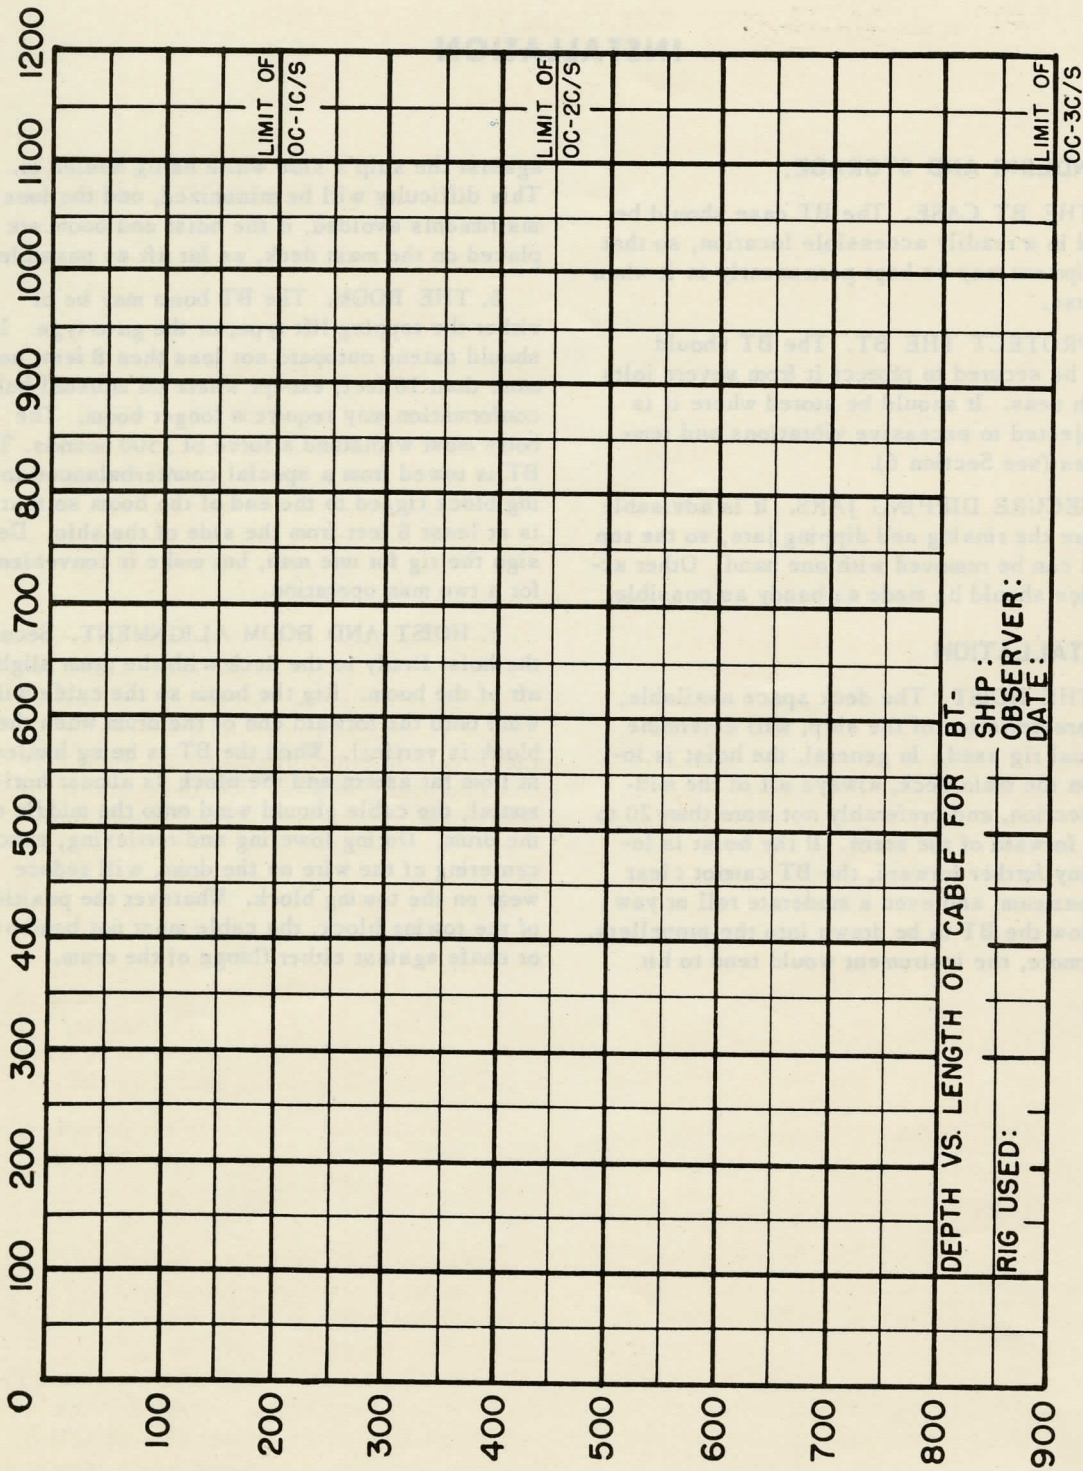

Figure 3-2. Chart, Depth vs. Length of Cable
- (1) The speed of the Ship
- (2) The type of BT and whether or not the auxiliary nose sleeve is attached.
(3) The length of cable on the drum
(4) The ease of rotation of the hoist drum and the sheave of the towing block.
b. **TO MAKE DEPTH VS. LENGTH OF CABLE GRAPH.** Table 1-1 provides a rough estimate of speeds at which full depth may be expected to be reached. Take data on the length of cable payed out and actual depths reached by the BT, and plot a graph showing counter reading against depth obtained for various ship's speeds. A blank chart (figure 3-2) is included in order to prepare a graph for each model BT.